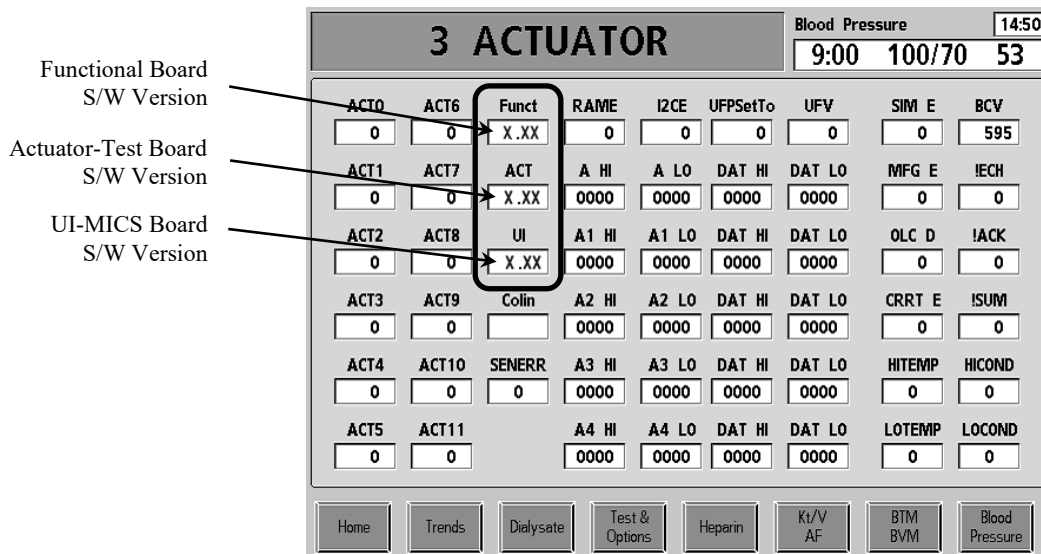

Figure 1
33. Use the up or down arrow keys to go to debug screen 3 ACTUATOR and verify that the new software versions are correct. See Figure 1 for software version locations on the debug screen.